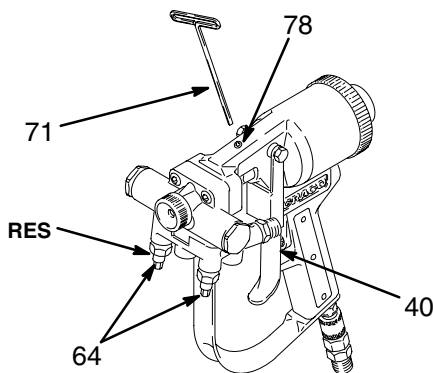

Fig. 23
- a. Lock the trigger safety (40).
- b. Close the needle valves (64).
- e. Lock the trigger safety again. See Fig. 23.
- f. Using a hex key wrench (71), screw in the set-screw (72) of the clean-out hole until no air or almost no air is escaping. See Fig. 23.